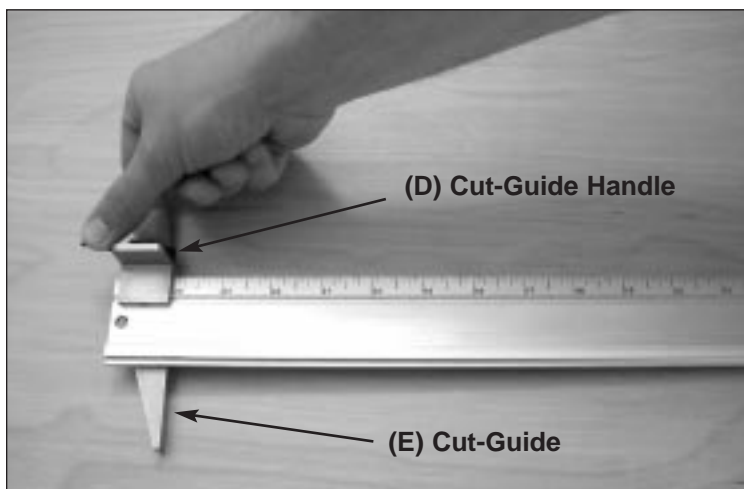

Fig. 1
1 Loosen the Cut-Guide handle (D), and slide the Cut Guide (E) to the 24" end of the scale, and retighten the handle (Fig.1). This will hold the guide out of the way during the setup.